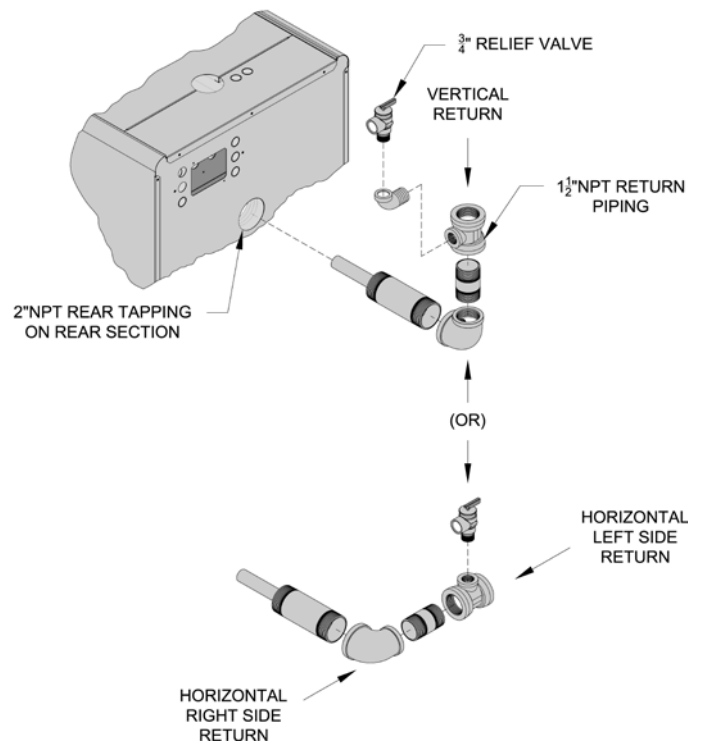

Figure 5: Return Injector Piping and Relief Valve Assembly Details
Open miscellaneous parts carton and remove contents. Identify the components using the illustrations (Figures 5 thru 9) throughout the assembly sequence outlined below as it applies to your installation.
1. Install return injector piping and relief valve, refer to Figure 5.
Note: Based on system return piping and access to service boiler, see Figures 1, 10 and 11, predetermine if injector piping orientation is to be positioned for vertical, horizontal left or horizontal right side return piping as shown in Figure 5.
- 1-1/2" NPT vertical return piping - Install 3/4" NPT x 90° street ell (not furnished) into 3/4" NPT tapping on tee. Install relief valve vertically into street ell. See Figure 5.
- 1-1/2" NPT horizontal left or right side return piping - Install relief valve vertically in 3/4" NPT tapping on tee. See Figure 5.